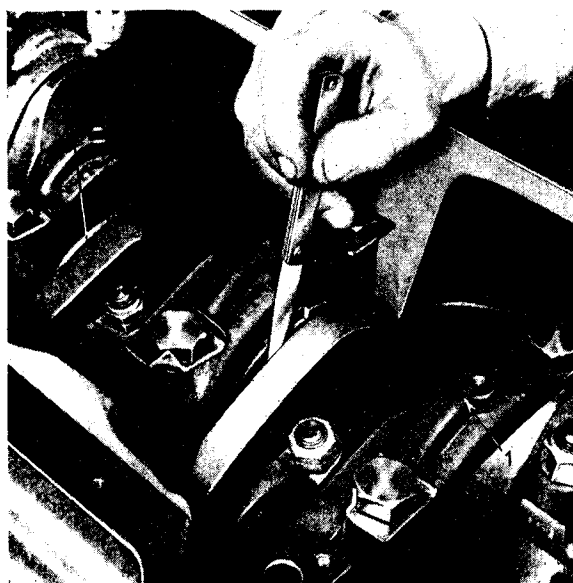

Fig. H.2. Checking Crankshaft End Float.
9. Check the crankshaft end float for a clearance of 0.002/0.015 in (0,05/0,38 mm) (Fig. H.2). Oversize thrust washers may be fitted.